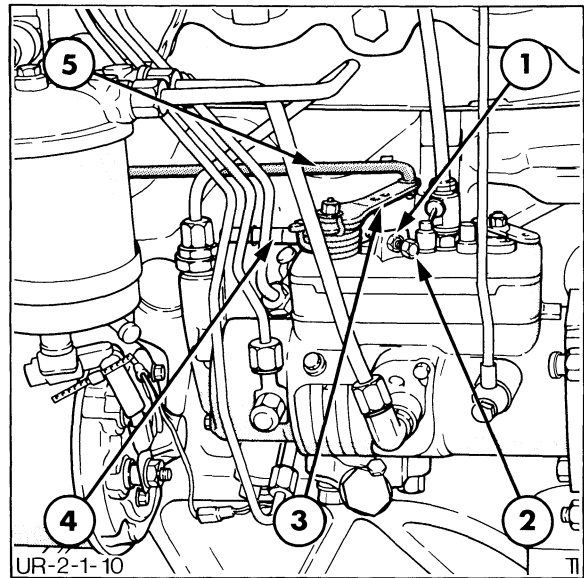

FIGURE 2-10
1. With the engine running and at normal operating temperature, disconnect the throttle linkage at the injection pump, Figure 2-10.
1. With the engine running and at normal operating temperature, disconnect the throttle linkage at the fuel injection pump, Figure 2-10.